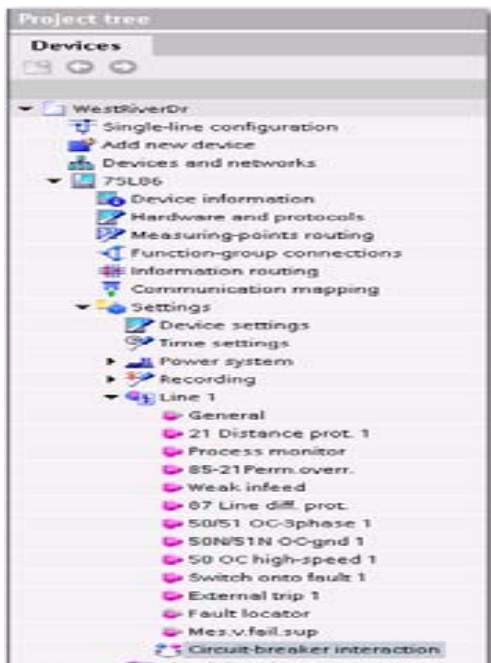
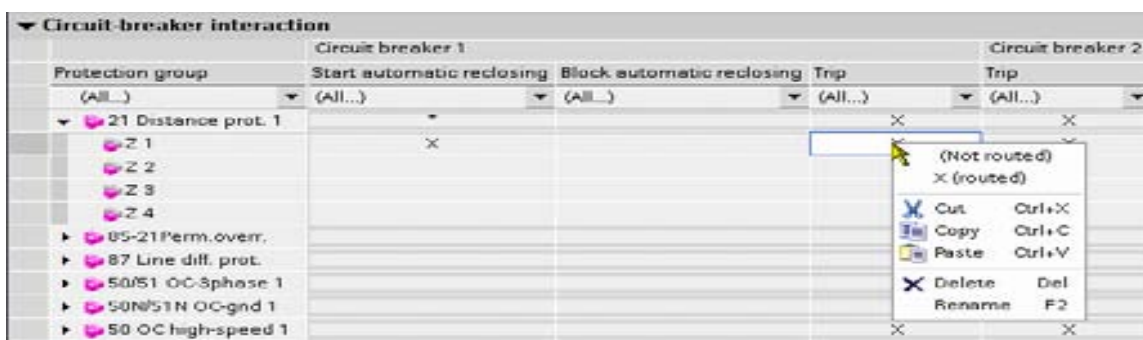

Figure 6: Project Tree in DIGSI 5 (Detail)
Figure 7: Detail Configuration of the Interface between the Protection Function Groups and the Circuit-Breaker Function Groups
Besides the general assignment of the protection function group(s) to the circuit-breaker function groups, you can also configure the interface for specific functionalities in detail. Further information on this can be found in the following section. Figure 6 shows how to reach the detail configuration. Figure 7 shows the possible assignments in detail.
- Open the respective protection function group, in the SIPROTEC 5 project tree, for example, Line 1 (see Figure 6)
- Double-click circuit-breaker interaction (see Figure 6)
- Configure the interface in this view, through the context menu (right-click), see Figure 7.